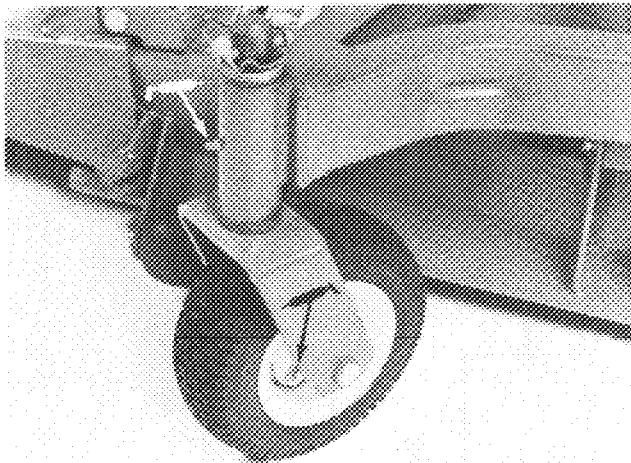
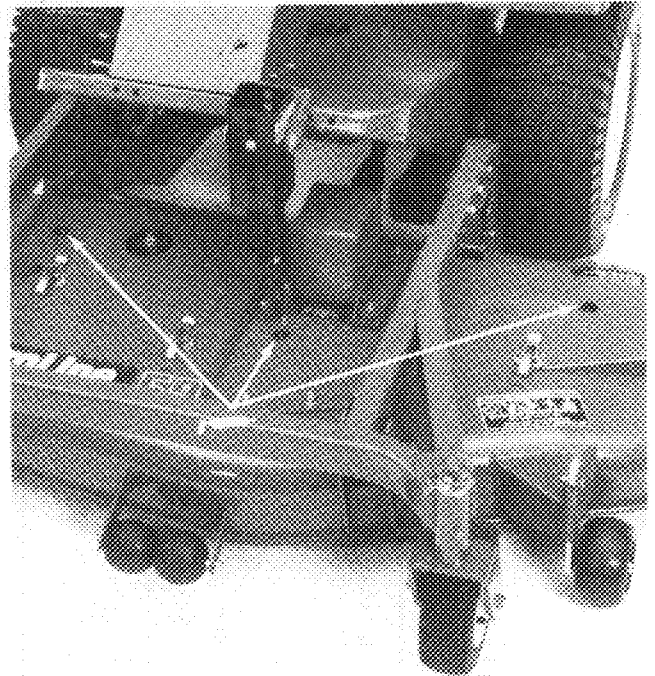

Figure 13
Figure 14
1. The cutting unit has bearings and bushings that must be lubricated, and these lubrication points are: castor spindle bushings (Fig. 13); castor wheel bearings (Fig. 13), and blade spindle bearings (Fig. 14).